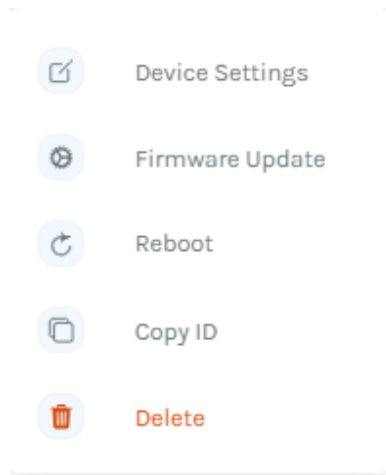

Figure 18
20. When you click on the three dots, a pop-up window will appear showing six different options (a. Device Settings, b. Firmware Update, c. Reboot, d. Copy ID and e. Delete) Figure 18.